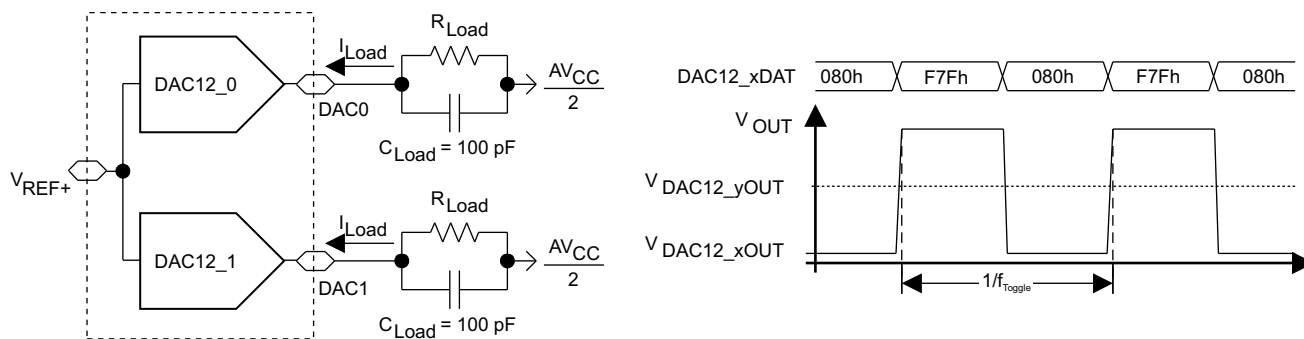

Figure 5-33. Crosstalk Test Conditions
| Channel-to-channelcrosstalk(see Figure 5-33) (1)  | DAC12_0DAT = 800h, No Load,DAC12_1DAT = 80h ↔ F7Fh, R Load = 3 kΩf DAC12_1OUT = 10 kHz at 50/50 duty cycle  | 2.2 V, 3 V      |     | -80 |     | dB   |